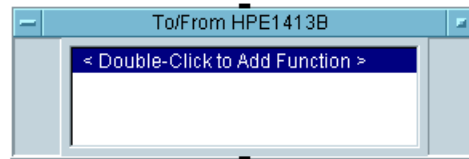

**Figure 7-1. To/From VXIplug&play Object**
3. Place the outline of the To/From *VXIplug&play* object where you want it in the work area and click the mouse button. The object appears as shown in Figure 7-1.